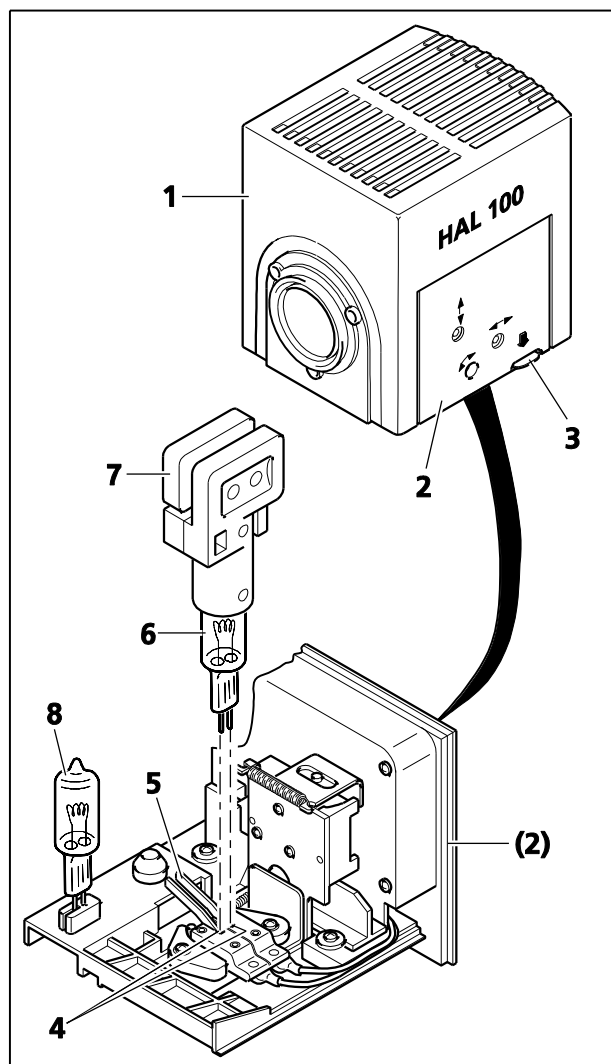

Fig. 3-23 Changing the Halogen Lamp
You need not remove the lamp housing from the stand to change the halogen lamp. Do not store the replacement tool (Fig. 3-23/7) provided for the halogen lamp inside the lamp housing while the lamp is in operation.
The replacement lamp (Fig. 3-23/8) may remain inside the lamp housing in the plugged-on position.
- Press down the unlocking button (Fig. 3-23/3) of the HAL 100 (Fig. 3-23/1) halogen illuminator, pull out the illuminator drawer completely (Fig. 3-23/2) and set it down separately.
- Press down the two spring levers (Fig. 3-23/5) and pull the old halogen lamp (Fig. 3-23/6) out upward.
- Press down the two spring levers, insert the new lamp into the lamp base (Fig. 3-23/4) and release the spring levers. Be sure to always use the replacement tool (Fig. 3-23/7) for holding / touching the halogen lamp, as traces of grease may impair the service life of the halogen lamp. If required, clean the bulb with pure alcohol before you switch the lamp on for the first time in order to prevent dirt from burning into the glass.